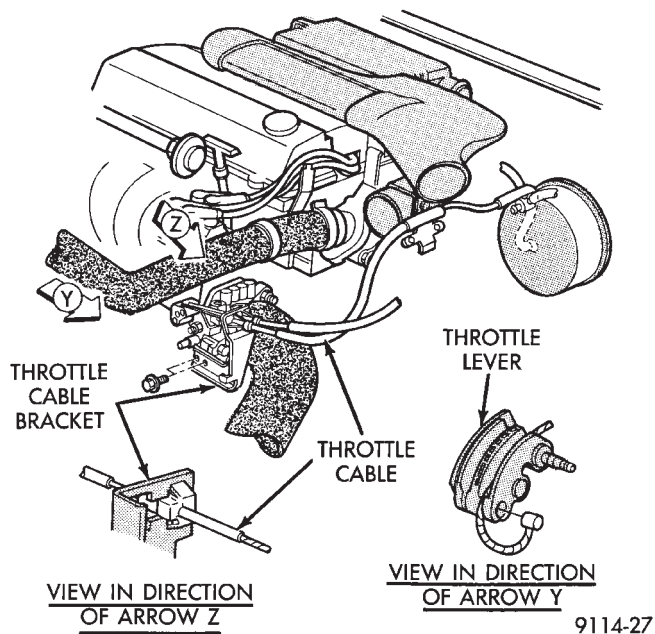

Fig. 4 Accelerator and Speed Control Cables
- (6) Remove accelerator and speed control cables (Fig. 4).
(8) Connect accelerator and speed control cables (Fig. 4).